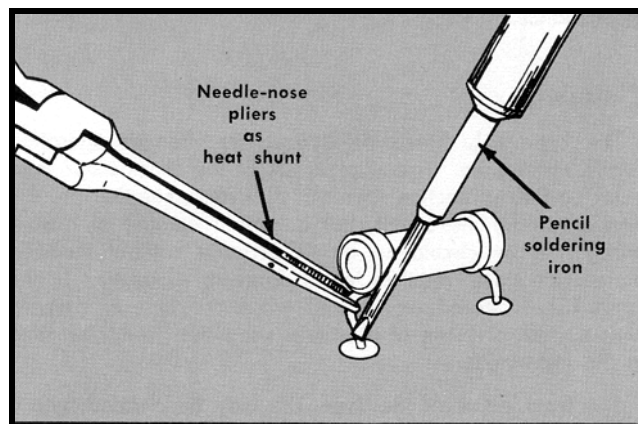

Fig. 4-1. Apply soldering iron to the heat-shunted lead when removing a component from an etched-wiring board.
2. Touch the tip of the soldering iron to the lead at the solder connection (see Fig. 4-1). When the solder begins to melt, pull the lead out gently.